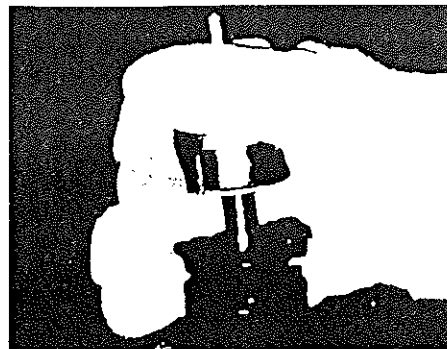

Figure 917. Winding Coupling Spring
- H. Insert a spare rotating magnet, with woodruff key installed in taper, into cam assembly. See Figure 917. Turn magnet slightly in direction of coupling rotation (to wind spring). Lift magnet with cam only enough to clear projections on body. Wind spring one half turn and re-engage cam assembly into body.